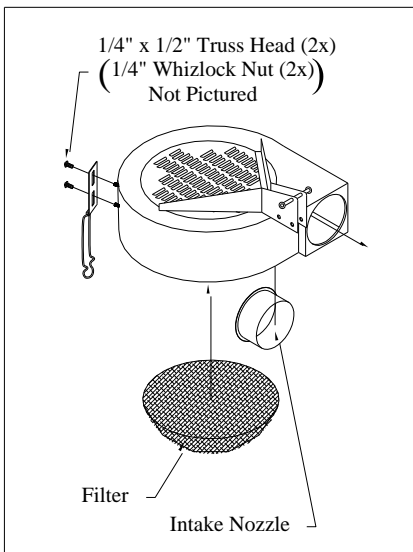

Fig. 7
7. The molded top assembly has been partially assembled by the factory. Fit the filter (16) over the filter support inside the top. Slide intake nozzle (21) through hole in top from the inside out with the lip inside. Attach the latch (18) to molded top with two 1/4" x 3/4" truss head screws and whizlock nuts. **(Fig. 7)**